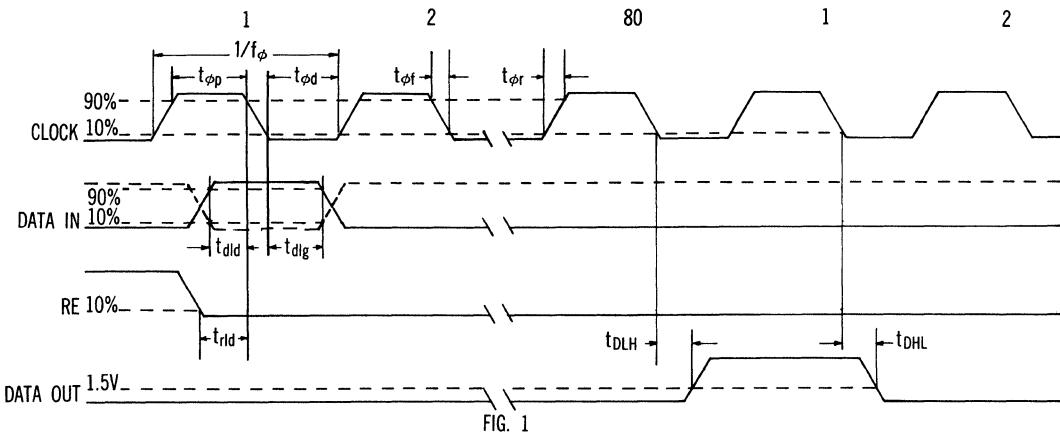

FIG. 1
**SHIFT:** Fig. 1 illustrates shifting a logic 1 bit from the Data Input ( $D_{in}$ ) through one of the 80-bit registers. RE (Recirculate Enable) at logic 0 enables  $D_{in}$ . RE must go to logic 0 for  $t_{rlid}$  time (Recirculate Control Leadtime) prior to the Clock's negative edge, and must maintain that state at least until the Clock's negative edge ( $t_{dilg}$ ) to insure proper data shifting. This data bit entered will appear 80 clock pulses later within Output Delay Time ( $t_D$ ) of that Clock's negative edge.